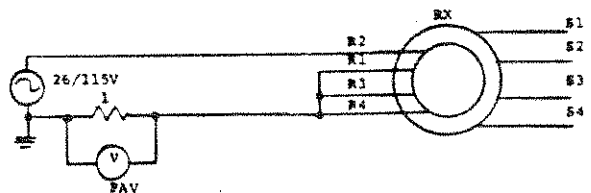

Figure 7-20. Input Current Test (RX)
- Set up equipment as shown in figure 7-20.